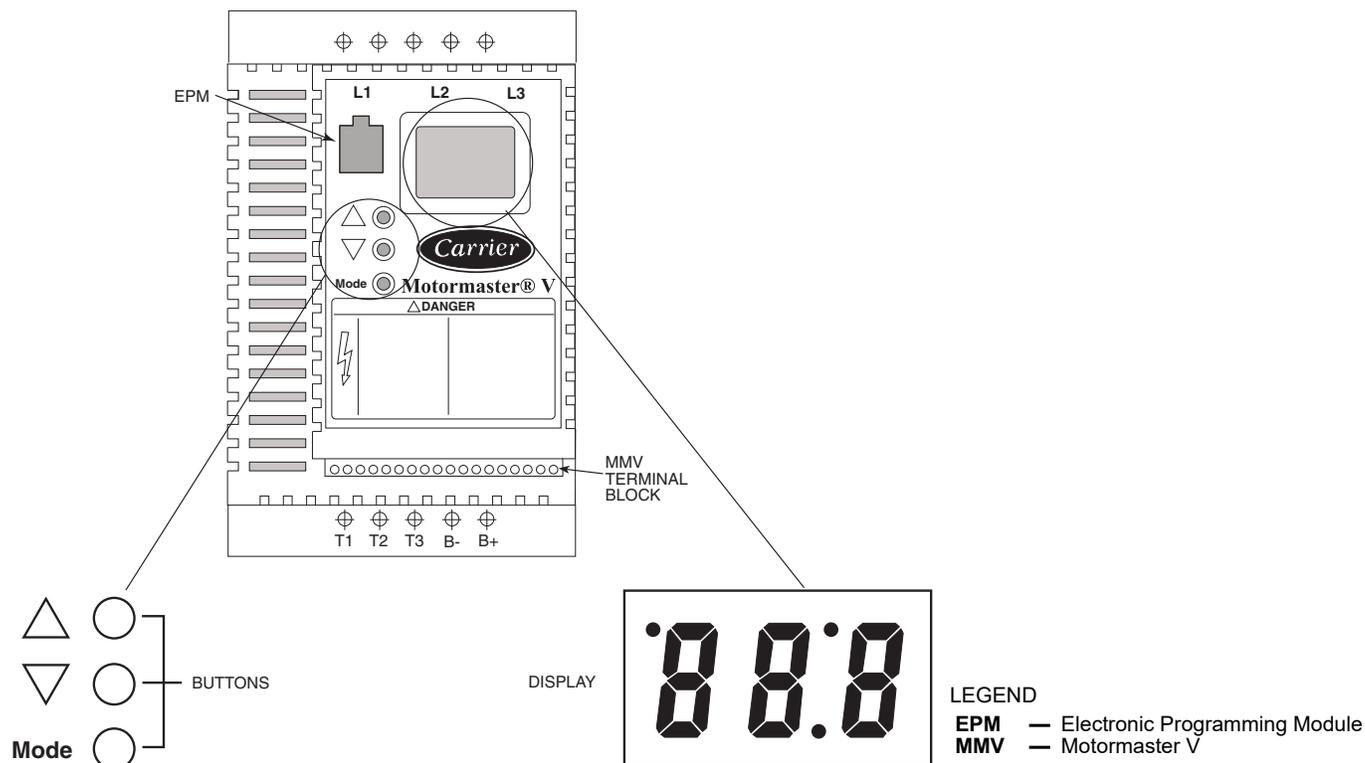

Fig. 60 — Motormaster® V Mode Buttons and Mode Display
The MMV is configured for 1 of 12 operation modes based on the inputs to the control terminal block. The 30RAP units use operating modes 5-8. In these configurations, the MMV follows a 4 to 20 mA speed reference signal present on terminals 25 (+) and 2 (-). The Aux board generates a 2 to 10 vdc signal that is converted to a 4 to 20 mA signal by means of a 240 Ω 1/4 w resistor in series with the positive (+) signal wire. One additional jumper is required to configure the drive for 50/60 Hz operation and input voltage. See Table 42 for proper inputs. Once the drive is powered, it will change to the mode selected according to the inputs. See Fig. 60.
1. To enter the PROGRAM mode to access the parameters, press the Mode button. This will activate the password prompt (if the password has not been disabled). The display will read “00” and the upper right-hand decimal point will be blinking. See Fig. 60.
The drive uses an electronic programming module (EPM) chip to store the program parameters. This is an EPROM memory chip and is accessible from the front of the Motormaster V. It should not be removed with power applied to the VFD. See Fig. 60.